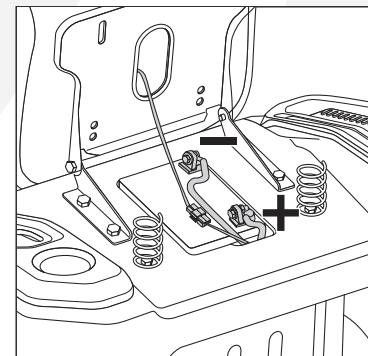

Fig. 7
2. Attach the negative cable (black) to the negative battery terminal using the bolt and nut to a torque of 2-4 ft-lbs. (Fig. 7)